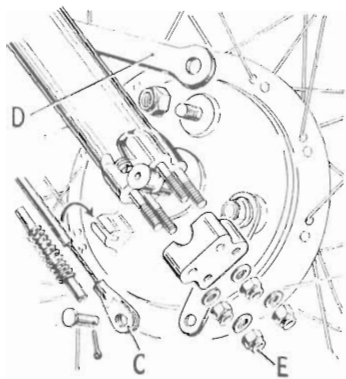

FIGURE 28.
Slacken the brake cable as much as possible by means of the adjuster at the handlebar lever and extract the pivot pin from the clevis (C) FIG. 28. Remove the outer cable from its socket on the brake cover plate to release the cable completely. Detach the torque arm (D). Take off the fork leg end caps (E) to remove the wheel, and as the nuts are unscrewed, support the wheel in order to avoid damage to the stud threads.